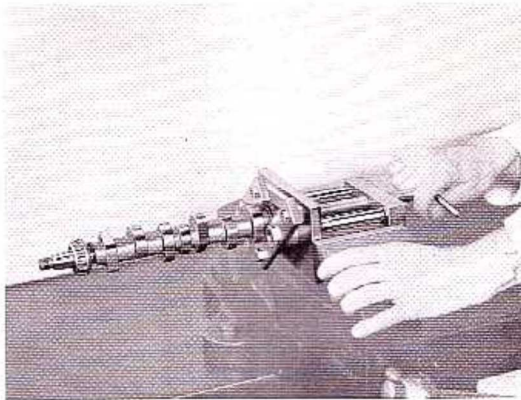

FIG. 7. WITHDRAWING ROLLER RACE FROM CAMSHAFT USING TOOL 7144/436A
10. Remove the races and inner tracks of the bearings from the camshaft, using tool part no. 7144/436A, as illustrated in Fig. 7.